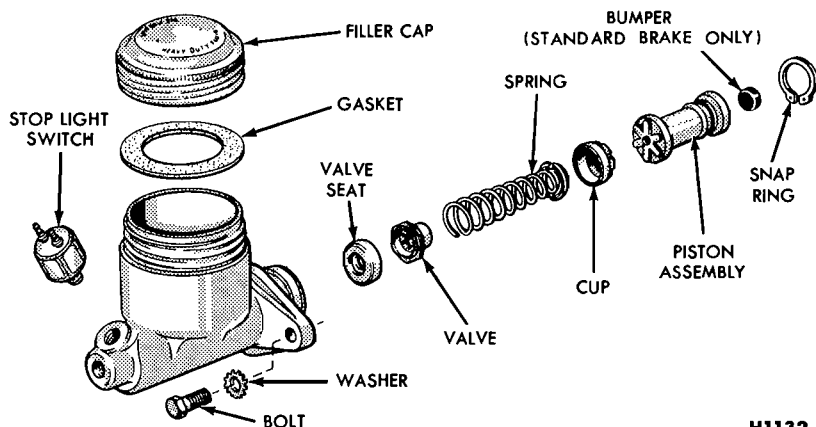

FIG. 16—Brake Master Cylinder Disassembled
2. Remove the stop light switch, brake fitting, and gaskets (Fig. 16).
2. Install the brake fitting (Fig. 16) on the forward end of the cylinder.